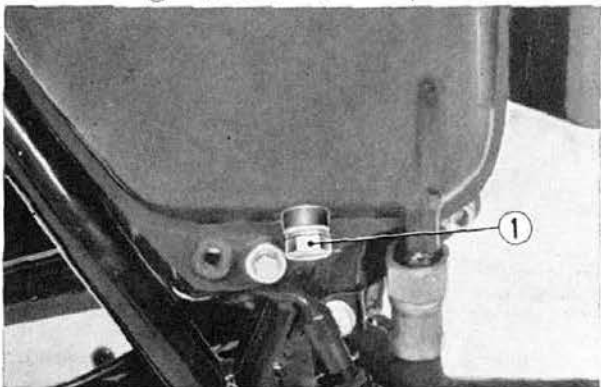

Fig. 15-7 ① Oil tank drain plug
2. Remove the oil tank and crankcase drain plugs, and drain the oil. (Fig. 15-7, 8)